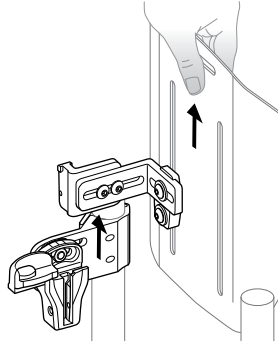

Fig. 12
2. Grab the top of the shell and lift up until the Slide Bars clear the Holster. *Fig. 12*